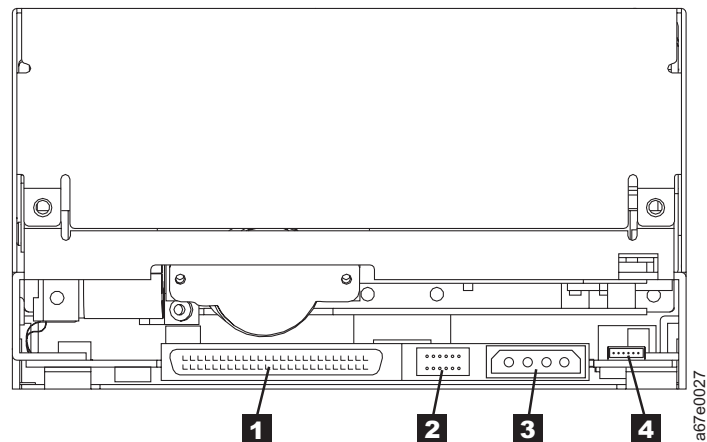

Figure 36. Disconnecting the cables from the tape drive
- b. Disconnect the following connectors from the rear of the drive (see Figure 36).